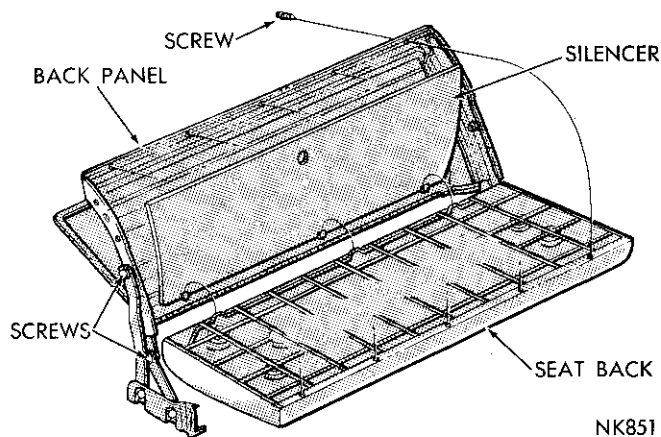

Fig. 16—Second Seat Back
(2) Release catch from seat back and remove back assembly.
(3) Refer to Figure 16 for seat back to panel attaching points.